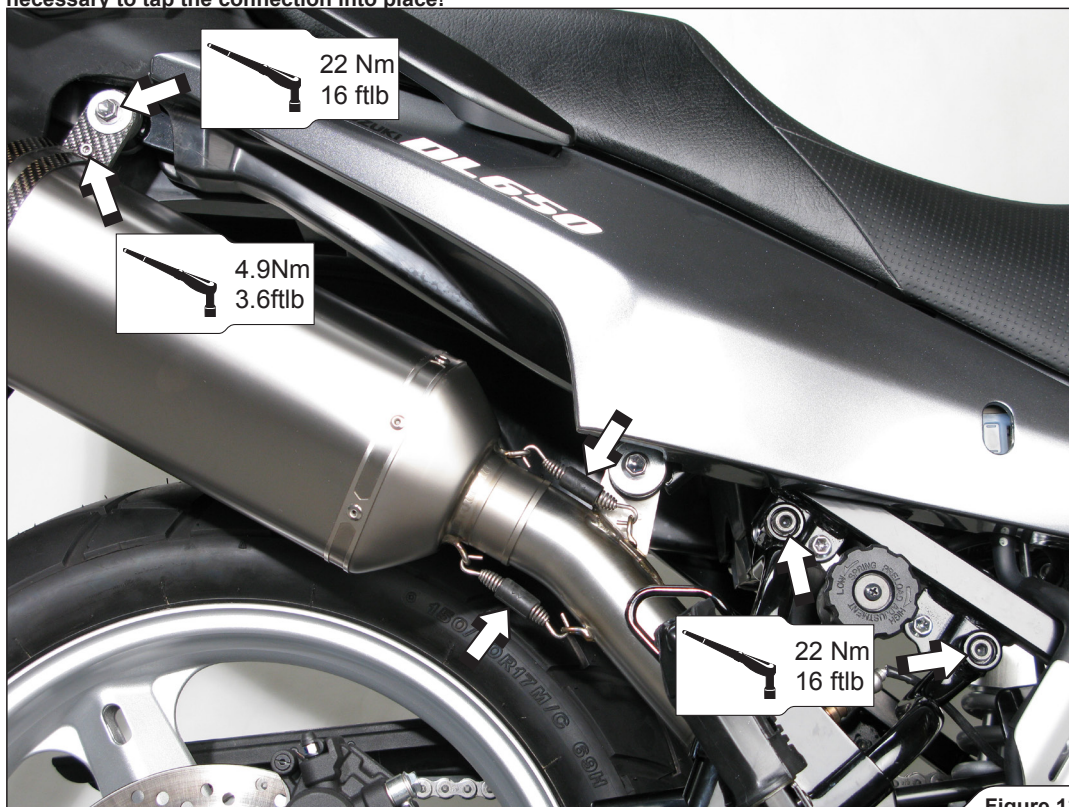

Figure 13
5. Position the muffler correctly and slide it onto the outlet side of the link pipe. Attach the springs, align the muffler in respect to the motorcycle and tighten the carbon-fiber clamp onto the subframe, using stock bolt, washers and nut. Reinstall the right passenger's footrest (Figure 13).